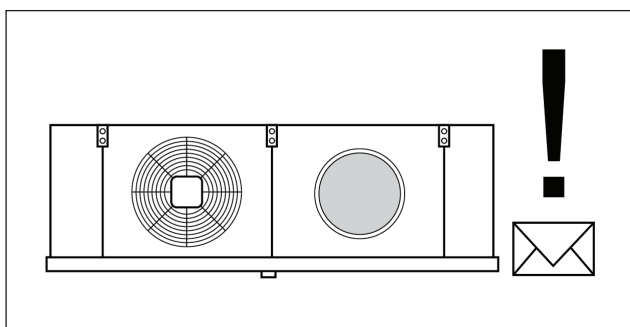

Fig. 8.4
3. Check the contents of the packaging for completeness. Any damages or missing parts must be immediately reported to the supplier of the equipment in writing (Fig. 8.4).